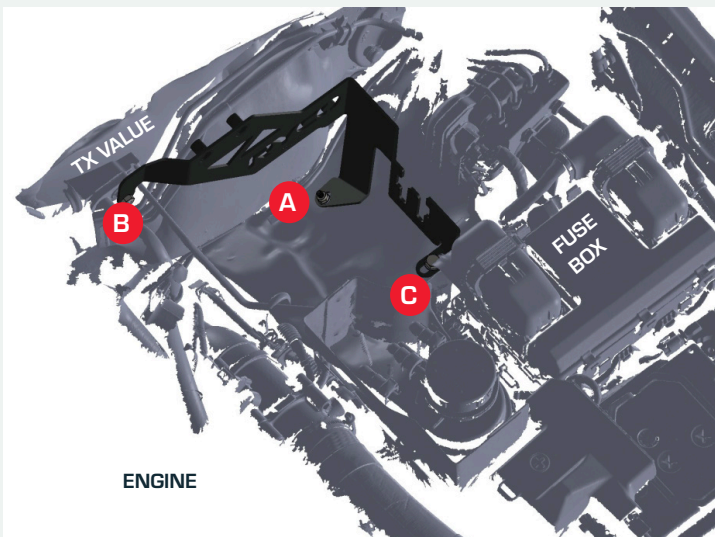

FIGURE 1
- 2 Locate the stud on the thermal expansion (TX) valve point B. Position the bracket in the engine bay as per FIG. 1, placing point B at the TX valve stud and point C at the fuse box stud.